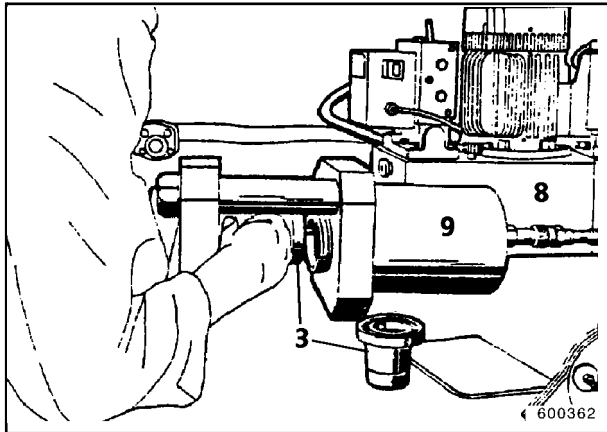
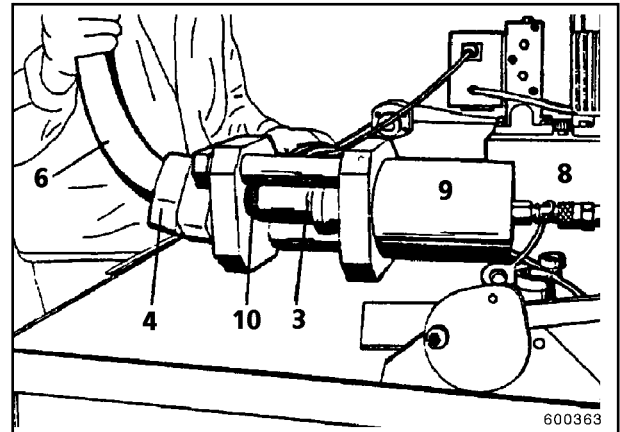

Fig. 4
Fig. 5
2. Oil Z-ring (3) and inner contour of flange (4)
3. Push flange (4) onto pipe (5)
4. Insert Z-ring (3, Fig. 4) and push, together with pipe (6, Fig. 5), against pressure plate of cylinder (9)